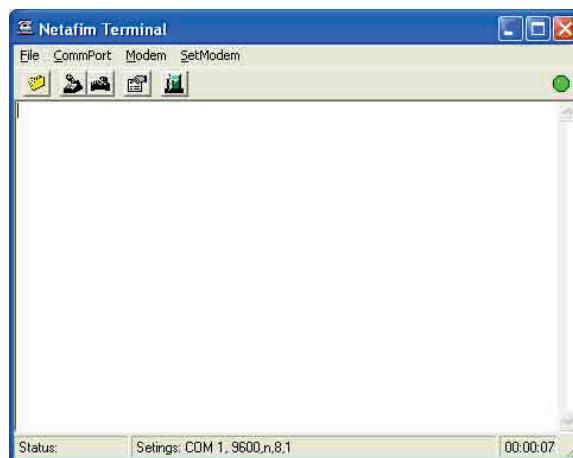
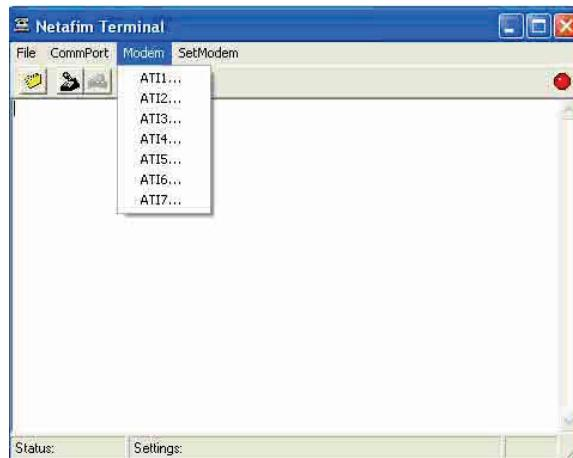

Figure 5: Netafim's Terminal Screenshot
Figure 6: Modem Option List Screenshot
3. **Terminal:** Clicking on Terminal button opens the Netafim Terminal window (see **Figure 5**). This window enables the user to change AT Commands settings, such as the modem's configuration (see **Figure 6**). Note that the octagon on the right represents a Toggling port and can be either green (indicating good communication) or red (indicating bad communication).